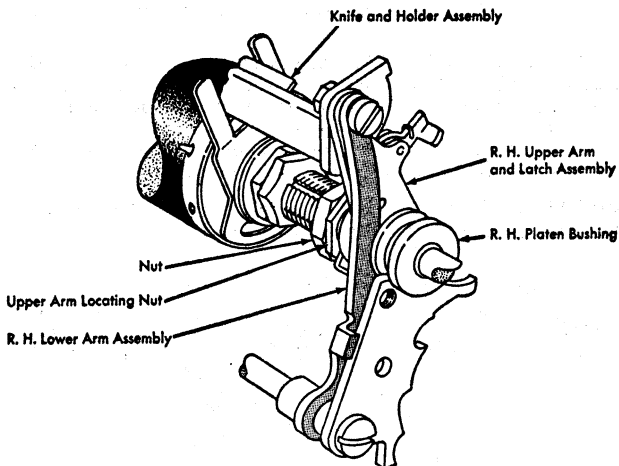

Figure 1. R. H. Platen Bushing and Lower Arm Assembly (Latched Down Position)
2. To hold the paper securely on the platen pins whether the platen is in the raised or lowered position. This is accomplished by having the knife and holder assembly connected to the platen shaft by the right and left upper arm and latch assemblies, and to the actuating shaft by the right and left lower arm assemblies in such a manner as to rotate it about the platen in a fixed arc when the platen is being raised (Figure 1).
adjusted horizontally along the platen shaft to obtain a minimum clearance between the right platen bushing and the lower arm assembly so that the lower arm will not bind on the left edge of the right platen bushing, when the platen is in its latched down position (Figure 1).